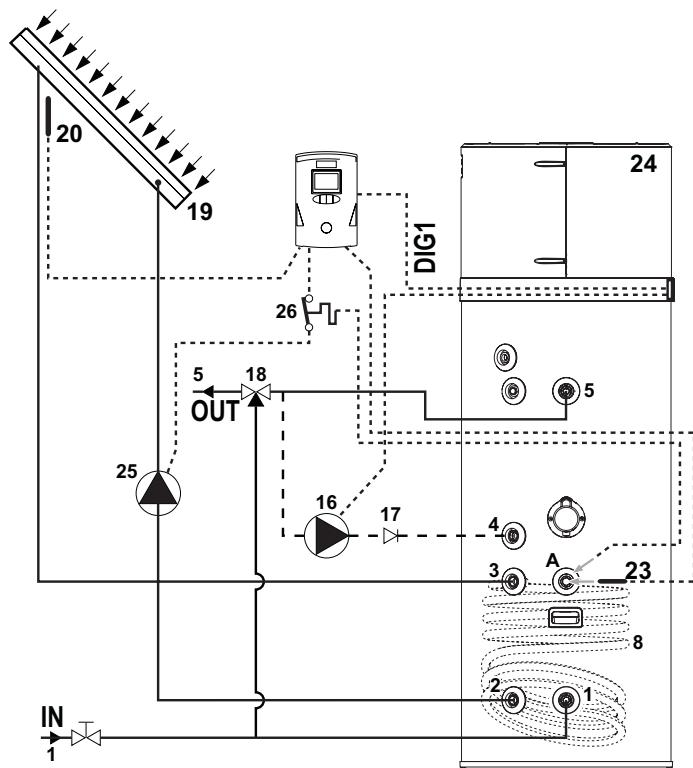
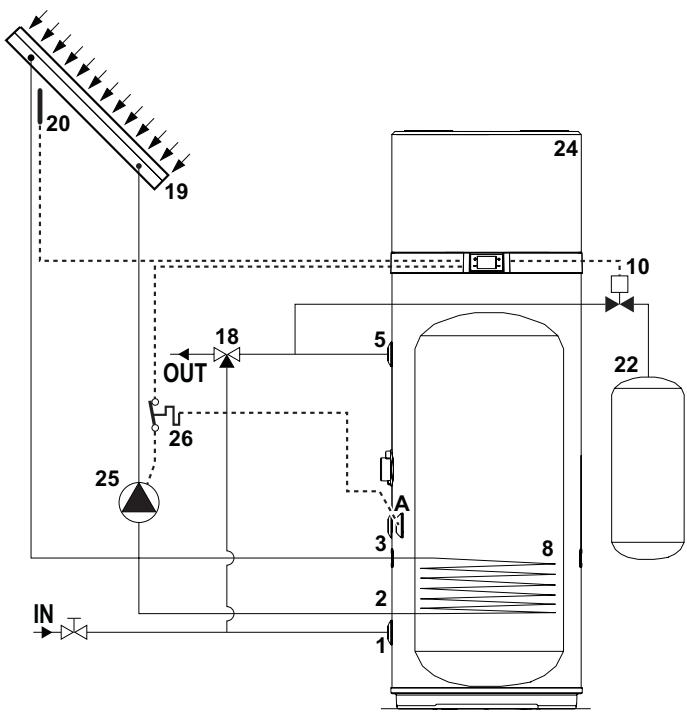
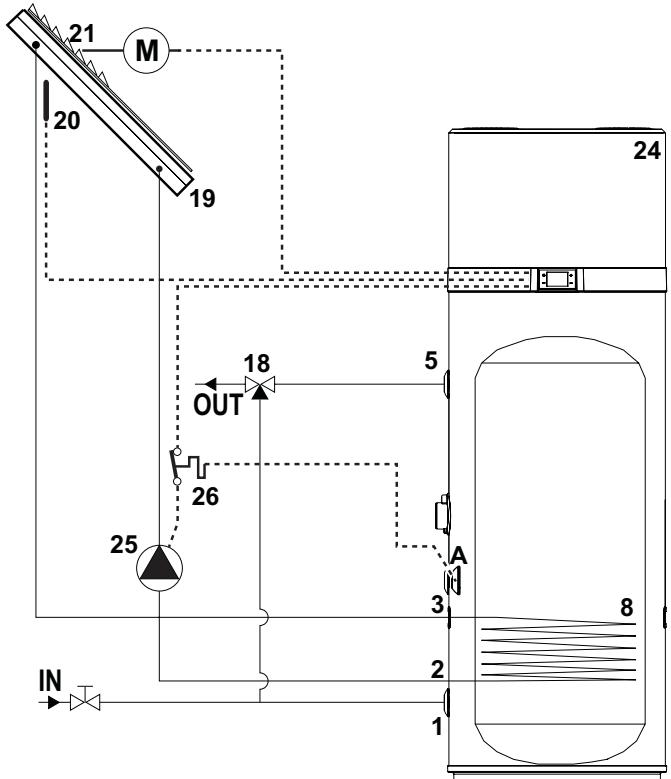

fig. 21
fig. 22
fig. 23
The following figure (fig. 21) shows how to connect the equipment to a solar thermal system controlled by a dedicated electronic controller (not supplied) that has a "voltage-free contact" type output to be connected to the DIG.1 input of the equipment (see "6.8.1 Remote connections").
The following figures (fig. 22 and fig. 23) show how to connect the equipment to a solar thermal system controlled directly by the latter, without the aid of a dedicated electronic controller.
In the configuration of fig. 22, in case of solar collector overtemperature a drain valve (not supplied) is activated to discharge in a DHW storage tank (puffer) hot water contained in the equipment.
In the configuration of fig. 23, however, in this condition the solar collector shutter is closed.
**Legend (fig. 21, fig. 22 and fig. 23)**